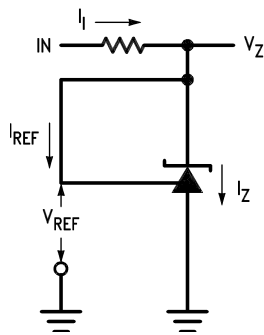

Figure 32. Test Circuit For  $V_Z = V_{REF}$
| $I_{Z(\text{MIN})}$                 | Minimum Cathode Current for Regulation                                    | $V_Z = V_{REF}$ (see <a href="#">Figure 32</a> )  |                                    | 55    | 80    | $\mu\text{A}$ |
| $r_Z$                               | Dynamic Output Impedance (2)                                   | $V_Z = V_{REF}$ , $I_Z = 0.1\text{ mA}$ to 15mAFrequency = 0 Hz (see <a href="#">Figure 32</a> )  |                                    | 0.25  | 0.4   | $\Omega$      |
| $V_{REF}$                           | Reference Voltage   | $V_Z = V_{REF}$ , $I_Z = 10\text{ mA}$(See <a href="#">Figure 32</a> )   | $T_A = 25^\circ\text{C}$  | 1.234 | 1.24  | 1.246 | V             |
| $V_{DEV}$                           | Deviation of Reference Input Voltage Over Temperature (1)      | $V_Z = V_{REF}$ , $I_Z = 10\text{ mA}$ ,$T_A = \text{Full Range}$ (See <a href="#">Figure 32</a> )   |                           |       | 6     | 20    | mV            |
| $I_{Z(MIN)}$                        | Minimum Cathode Current for Regulation                                    | $V_Z = V_{REF}$ (see <a href="#">Figure 32</a> )   |                           |       | 55    | 80    | $\mu\text{A}$ |
| $r_Z$                               | Dynamic Output Impedance (2)                                   | $V_Z = V_{REF}$ , $I_Z = 0.1\text{ mA}$ to 15 mAFrequency = 0 Hz (see <a href="#">Figure 32</a> )  |                           |       | 0.25  | 0.4   | $\Omega$      |